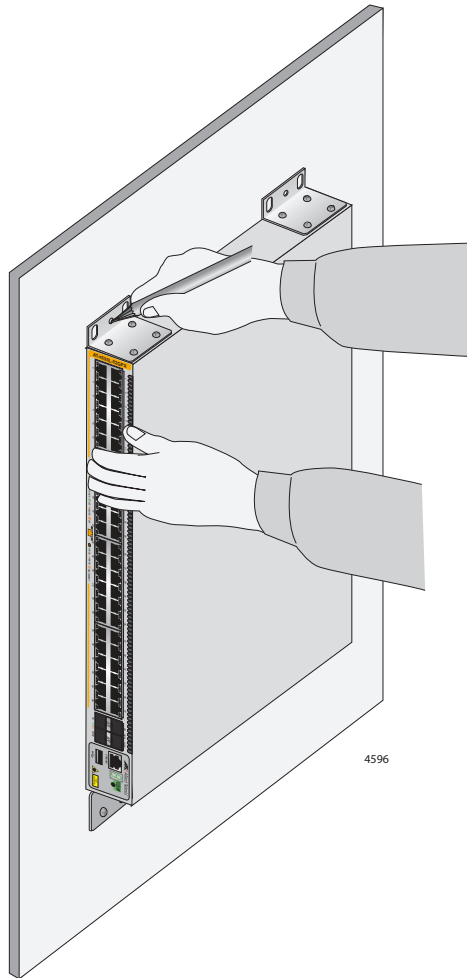

Figure 25. Marking the Locations of the Bracket Holes on a Concrete Wall
3. After attaching the brackets, have another person hold the switch on the concrete wall at the selected location for the device while you use a pencil or pen to mark the wall with the locations of the four screw holes in the four brackets (one screw per bracket). Refer to Figure 25 on page 68.